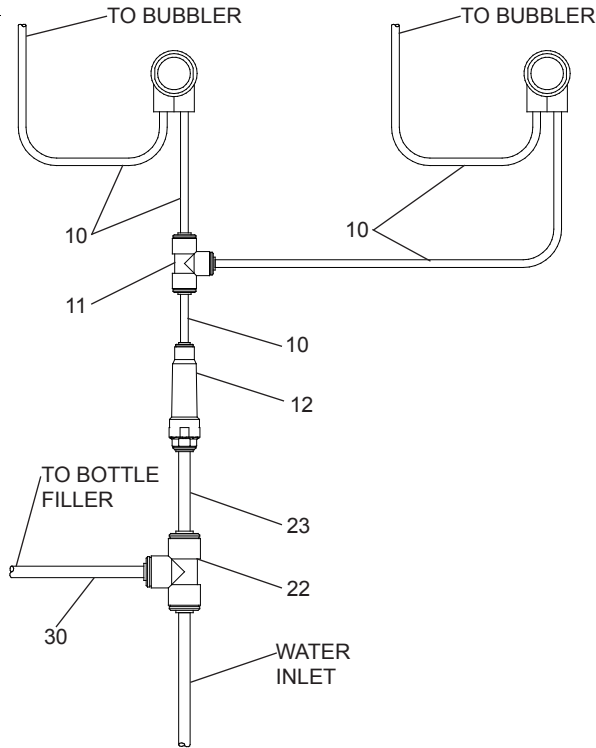

Figure 2 - EZWS-EDFP217K Tube Routing
- 3a. **(For EZWS-EDFP217K)** Install 3/8" tee, copper tubing and strainer per (Fig 2).